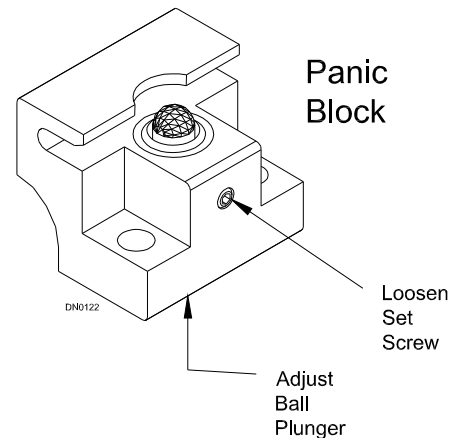

Figure 23
2. Remove panic block in top of door (See Figure 23).